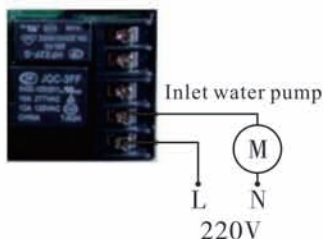

Figure3-3
B. Inlet water pump and regeneration pump connector (Wiring connection as below Figure 3-3/4/5/6)